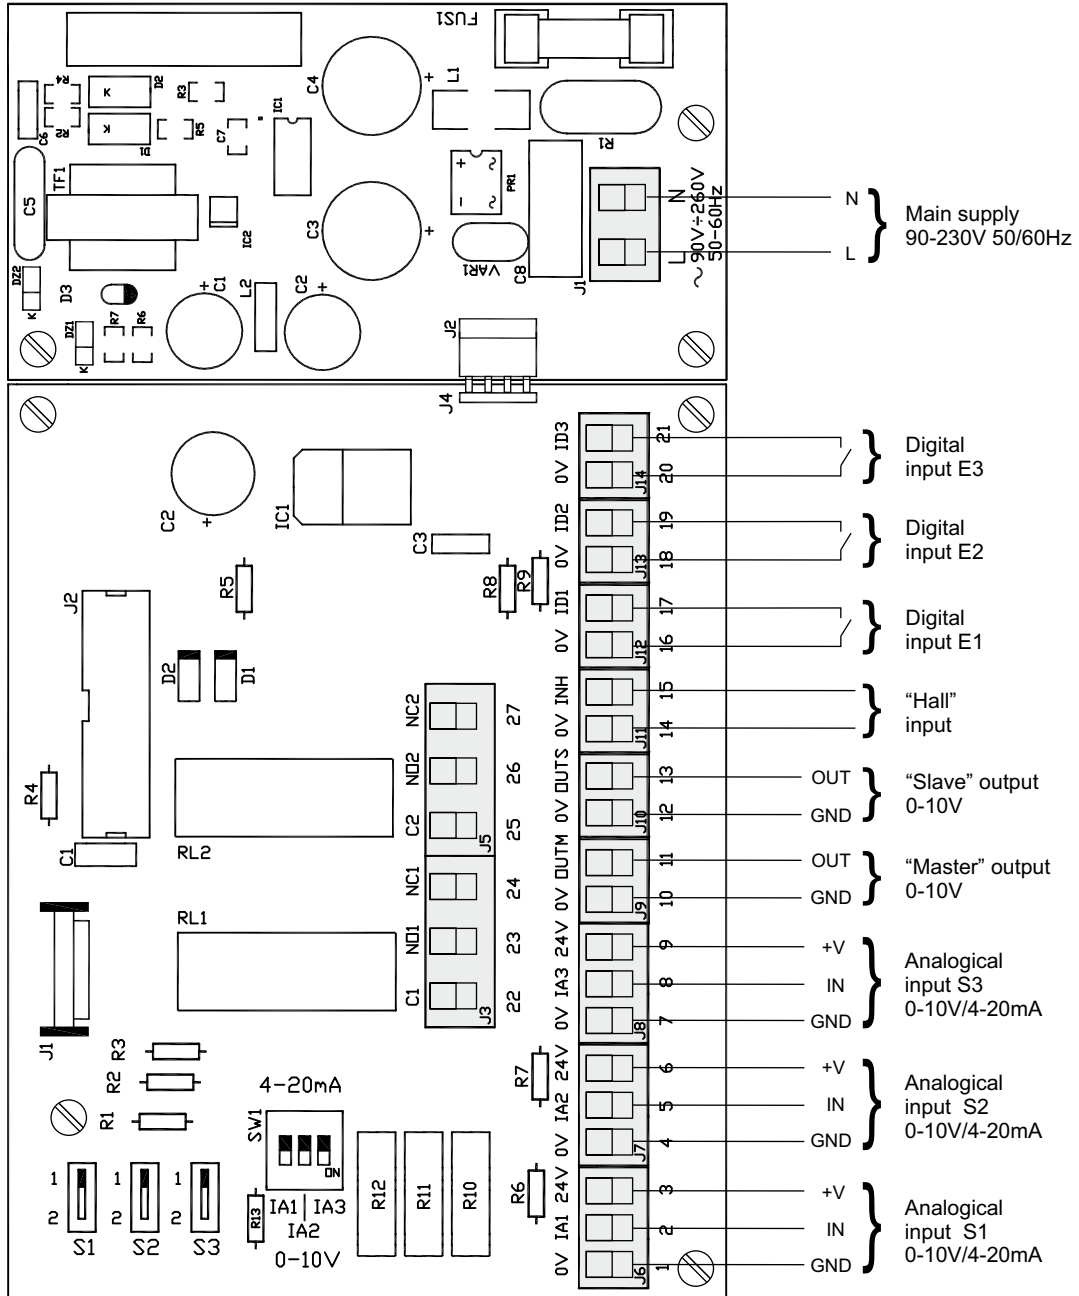

Fig.1
- **CONTROL ECOWATT AC/DC:** model with AC input and 0-10V analogical output for DC motors or frequency converters (Fig.1).